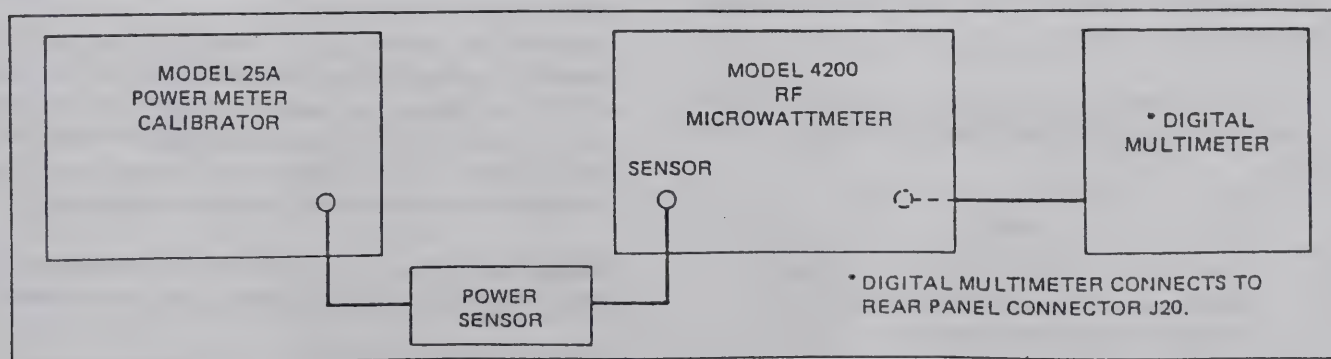

Figure 5-6 Test Setup for Recorder Output Adjustment
- a. Connect the instrument and test equipment as shown in Figure 5-6.